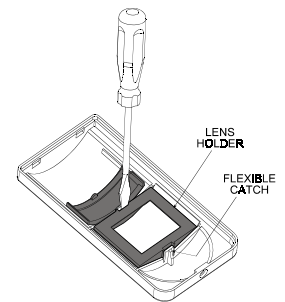

Figure 7. Releasing the Lens
- Remove the lens holder as shown in Figure 7.